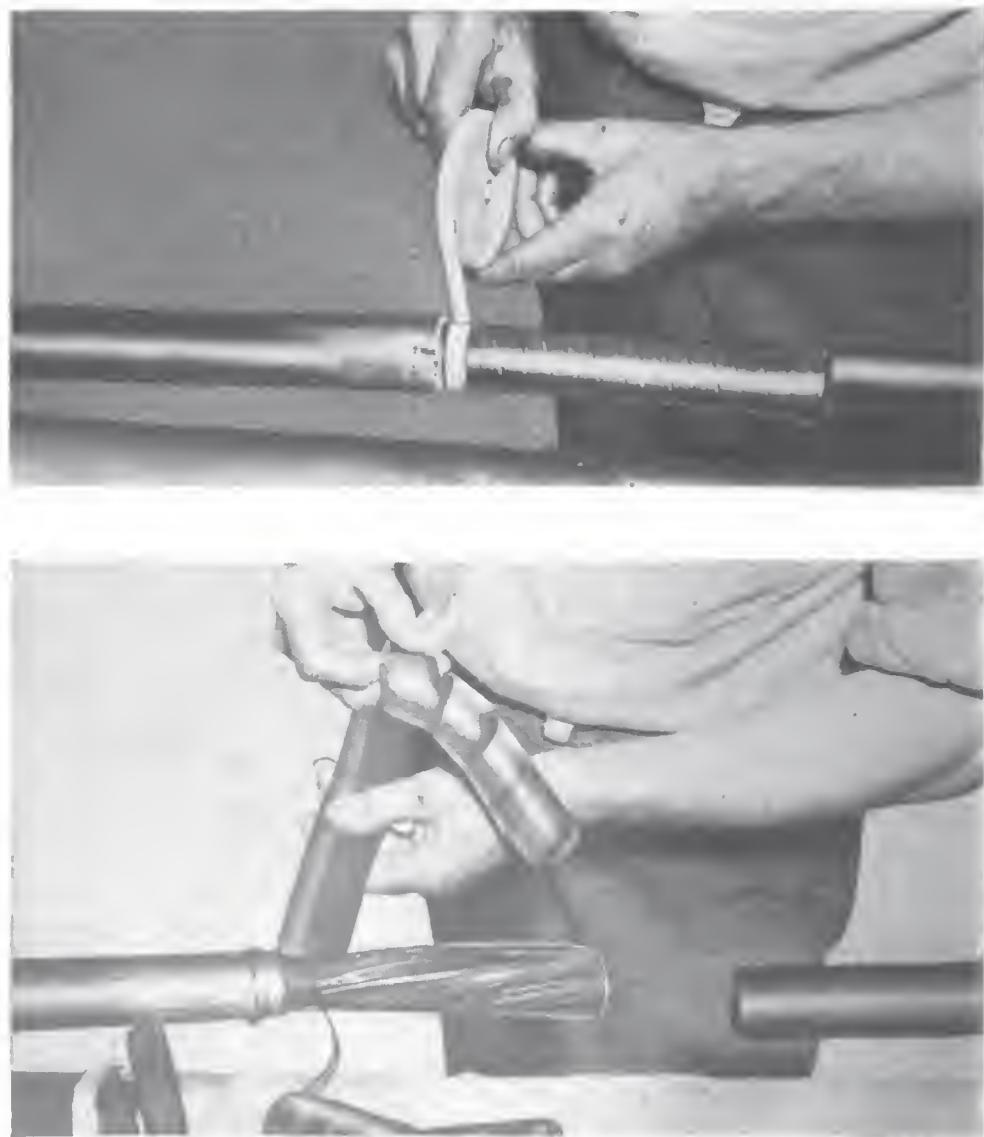

Figure 10-5, A. Wrapping varnished cloth tape between sheath and insulation. B. Removing belt insulation.
2. Unwrap the belt insulation a few layers at a time, tearing it off against the edge of the varnished cloth. Continue unwrapping and tearing until all of the belt insulation is removed. Do not cut irregular or rough edges of belt insulation with a knife. These steps are shown on figure 10-5, A and B.